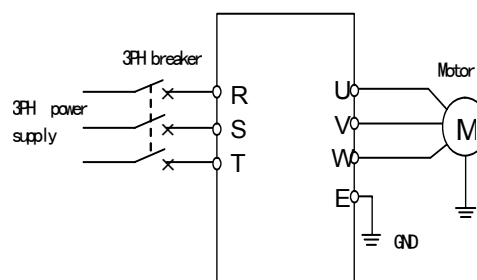

Fig 4-2 Wiring of simple running
- ① Please wire as fig 4-2;
- ② Be sure correct wiring then power on. Inverter displays “P.oFF”, then “0”;
- ③ Be sure [F0.0] = 0;
- ④ Based on inverter nameplate data for applied motor, please set parameter [F0.12] and [F0.13];
- ⑤ Press key  to start inverter, and inverter outputs freq 0 and displays “0.0”;
- ⑥ Press key  for UP function to increase set freq. Inverter output freq increases and motor rotate speed increases;
- ⑦ Check motor running is normal or not. If any abnormal, please stop running immediately and power-off. Then, check the reasons and run again;
- ⑧ Press key  for DOWN function to decrease set freq;
- ⑨ Press key  again to stop running and power-off.